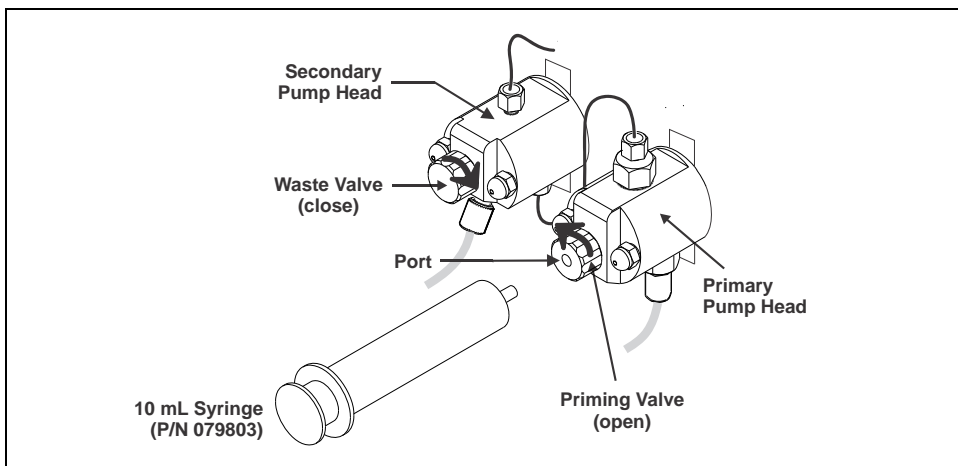

Figure 32. Pump Head Valve Settings for Priming the Eluent Lines
2. Connect a 10 mL syringe (P/N 079803) to the priming valve port on the primary pump head (see Figure 32).